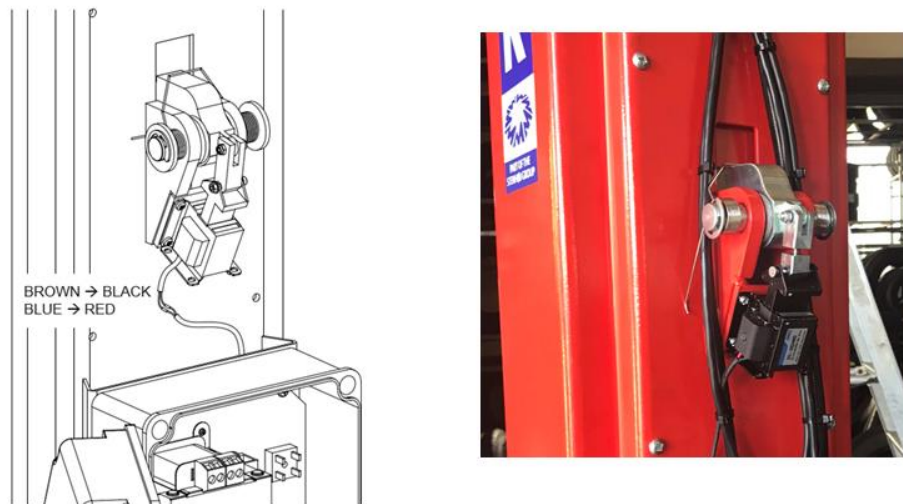

Figure 15
**NOTE!** Be careful that wires are arranged in a way that they don't get caught on the locking mechanism. (Neat example shown in Figure 15.)